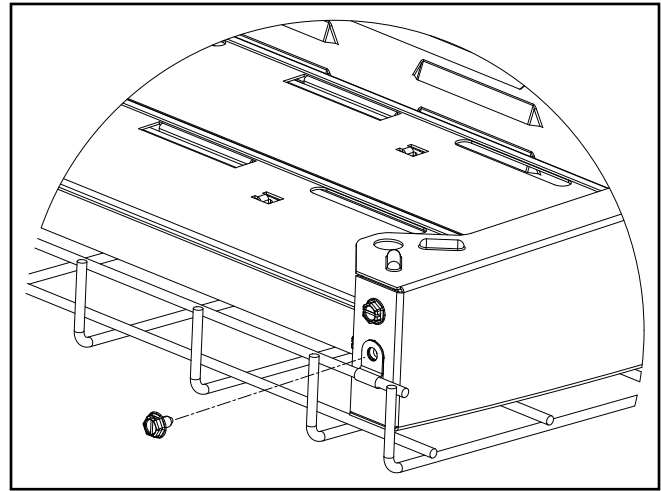

Figure 2.
3. Install and tighten the four (4) #10 x 3/8" sheet metal screws through the mounting clips and into the end plate holes as shown in. (Figure 2.)